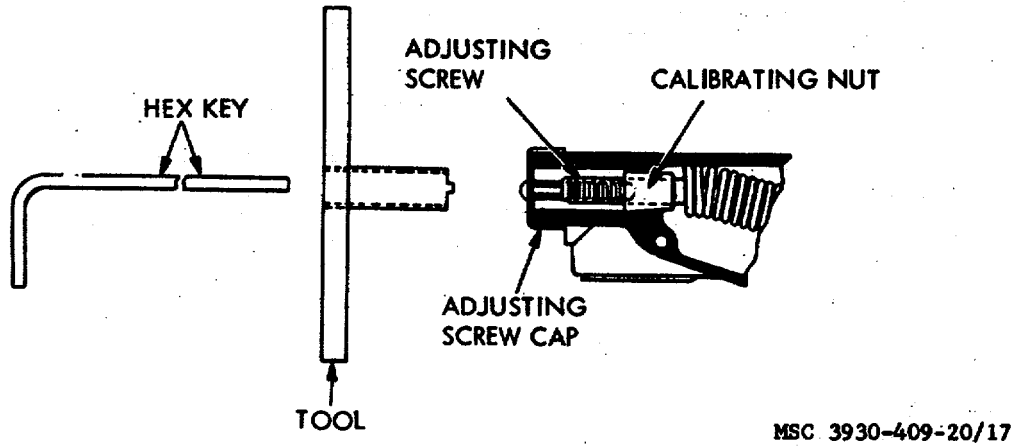

Figure 3-12. Governor adjustment..
(b) To adjust for higher speed remove seal and wire from adjusting screw cap (fig. 3-12) and turn cap counterclockwise. To adjust for lower speed, turn adjusting screw cap clockwise. One complete turn of adjusting screw cap will change engine speed approximately 300 rpm.
- (c) Remove seal and wire from governor adjusting screw cap (fig. 3-12) and remove cap.
- (d) Fabricate a tool from a short piece of tubing. Tube inside diameter must not exceed screw outside diameter. Cut end of tube to engage slots in calibration nut and use handle as shown in figure 3-12.
- (e) Engage slot in calibration nut with tool and engage adjustment screw with appropriate Allen wrench (fig. 3-12).
(4) *Slow action, adjustment.* If governor does not cut in promptly at maximum speed or does not cut out promptly at governed speed when load is applied, adjust surge ((3) above) except turn calibration nut counterclockwise.